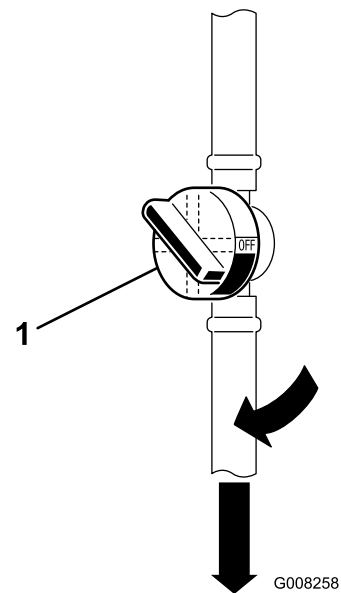

**Figure 7**
**Important:** You must set the height-of-cut lever to the highest position (7) when you transport the machine off the lawn to prevent damaging the blades.
1. Push and hold in the button on the height-of-cut lever (Figure 7).